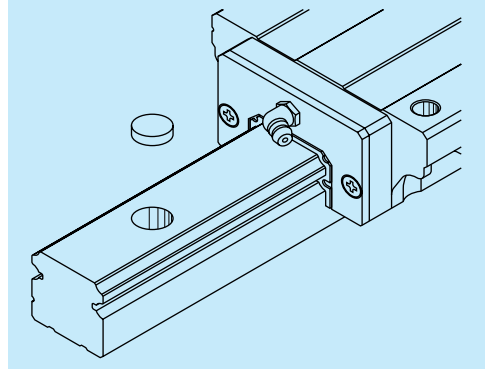

Fig. II-5-7
(3) Cap to cover the bolt hole for rail mounting
- After the rail is mounted to the machine base, a cap is used to cover the bolt hole to prevent foreign matters from clogging up the hole or from entering into the ball slide (Fig. II-5-7).